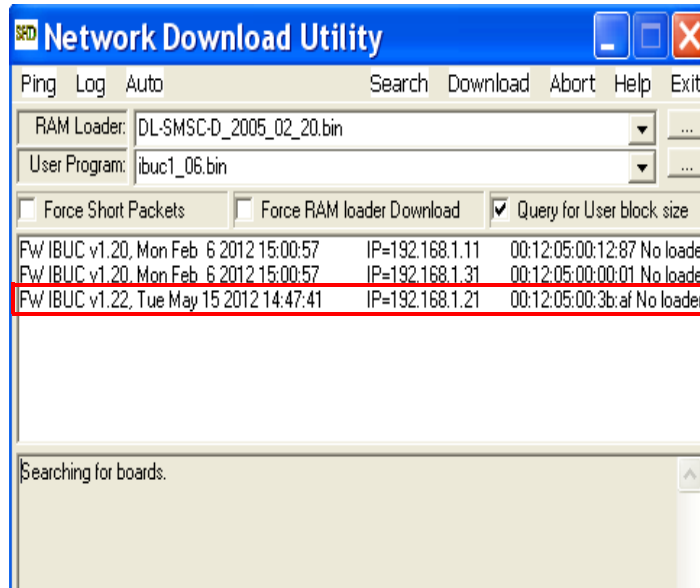

Figure 5.7 Results Window
8. The program begins to search for the IP address of any connected IBUC that is on the same subnet as the computer, and then displays that information in a window similar to the one shown in Figure 5.7.